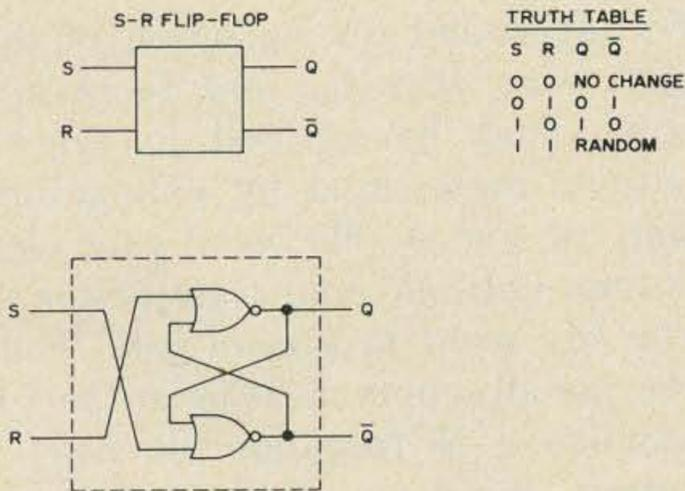

Fig. 6. Cross connected inverting gates form flip-flops that operate similarly to the manner of a latch relay.
*Nor* gates and *nand* gates are often cross connected to form a stable set-reset (S/R) flip-flop. An input pulse to either the S or R inputs will cause a condition in the output that will not change with additional input pulses applied to that same input line (Fig. 6).